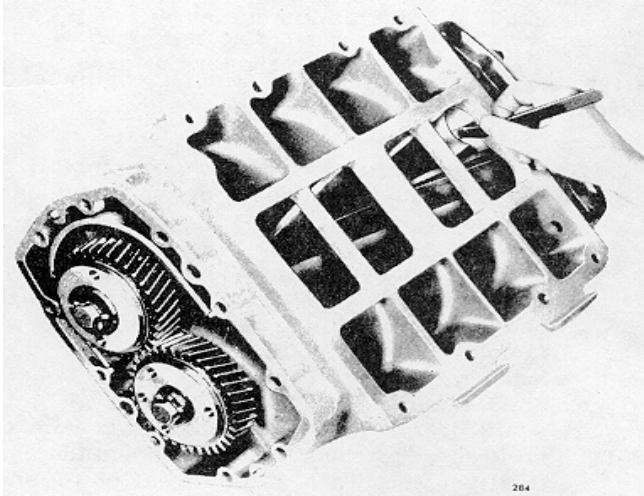

Fig. 29. Measuring End Clearance Between Blower Rotors and Housing
6. Make a preliminary check of the rotor-to-end plate and rotor-to-housing clearances at this time with a feeler gage as shown in Fig. 29. Refer to Figs. 26 and 27 for minimum blower clearances.
4. Determine the minimum clearances at points "A" and "B" shown in Figs. 26 and 27. Insert the feeler gages, as shown in Fig. 29, between the end plates and the ends of the rotors. This operation must be performed at the ends of each lobe, making twelve measurements in all. See Figs. 26 and 27 for the minimum clearances.